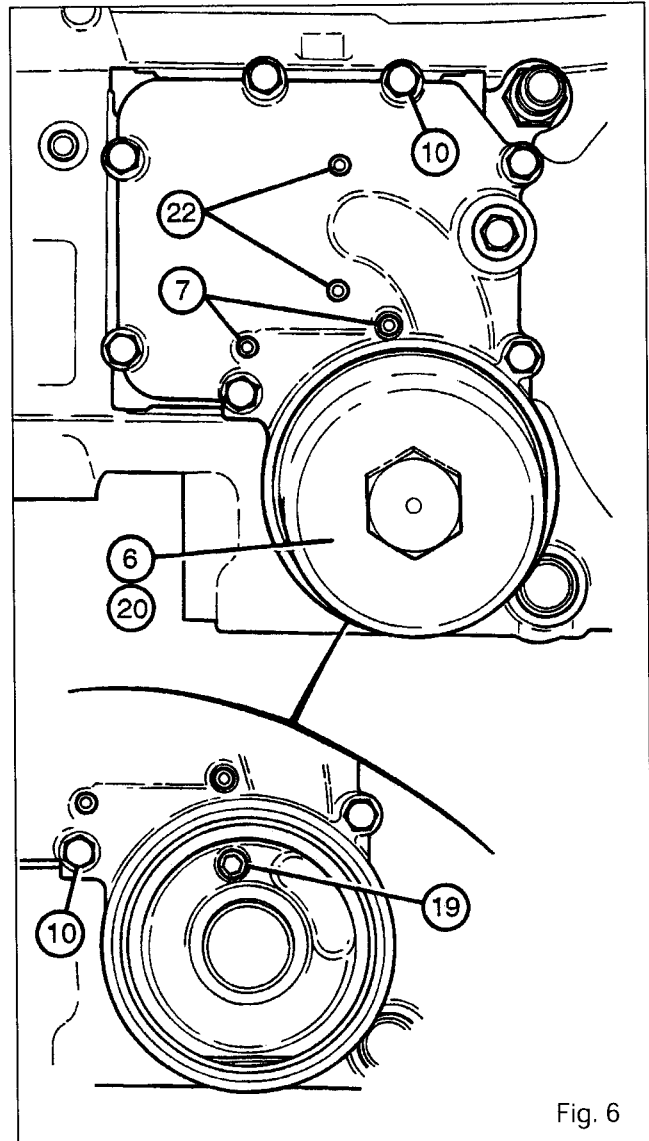

Fig. 6
4. Remove the supports for the handbrake controls and proportional PTO on forward motion (if fitted). Remove bolts **(7)**, **(10)** and **(19)** (Fig. 6).